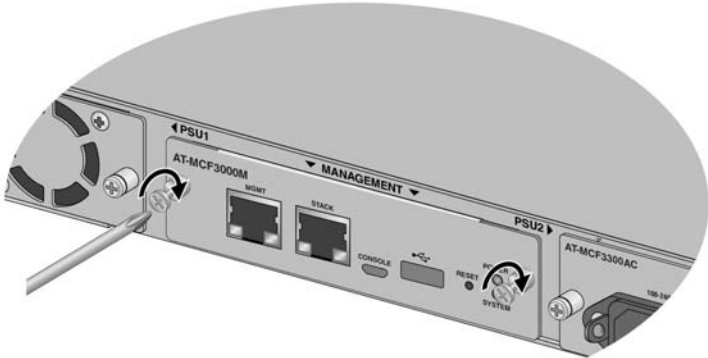

Figure 33. Tightening the Captive Screws on the MCF3000M Management Module
6. Tighten the two captive screws on the module with a cross-head screwdriver. Refer to Figure 33 on page 70.